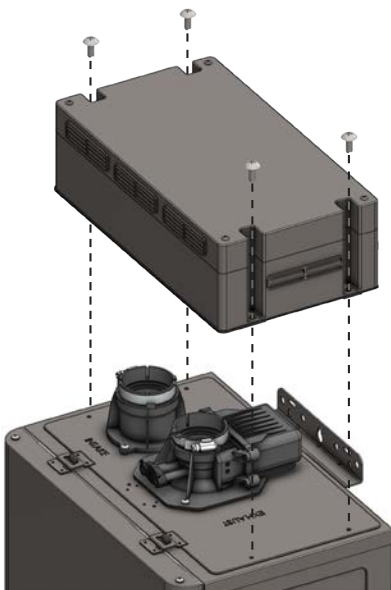

Figure 33 - Orient and Install Vent Cap
- 2 Orient the outdoor vent cap as shown in Figure 33. Secure the outdoor vent cap with the four screws removed in the previous step.